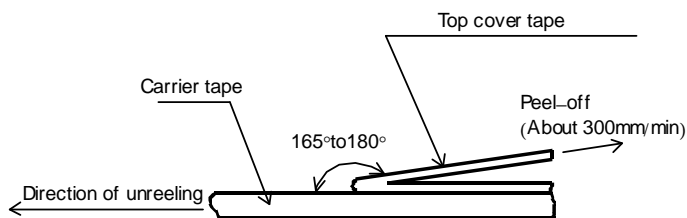
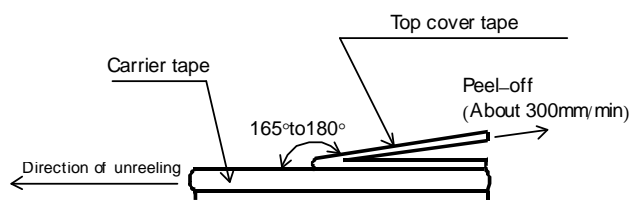

Figure-9
Figure-10
- 5). The peel strength of the top cover tape shall be with in 0.1N to 0.5N on the test method as shown in the following RCC06, 10: Figure-9, RCC16,20,32: Figure-10.